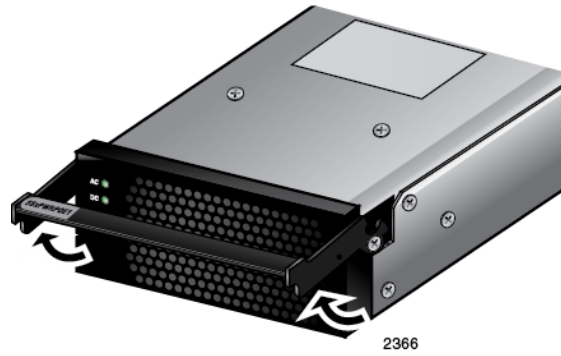

Figure 58. Raising the Handle on the AT-SBxPWRPOE1 AC Power Supply
4. Raise the locking handle on the AT-SBxPWRPOE1 AC Power Supply, as shown Figure 58 on page 115.